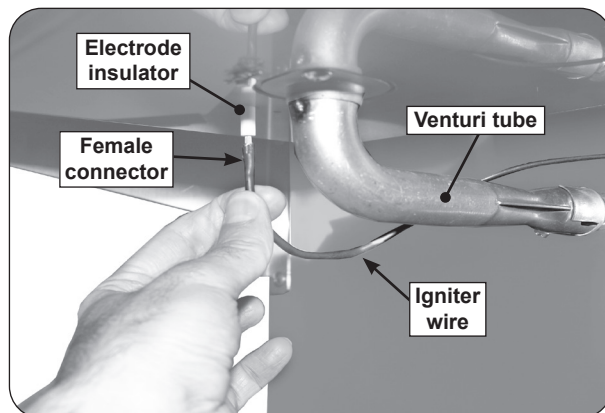

Fig. 22-2 Igniter wire connection
4. Connect the female connector on the end of the igniter wire to the male igniter connector protruding from the bottom of the white insulator. See Fig. 22-2.